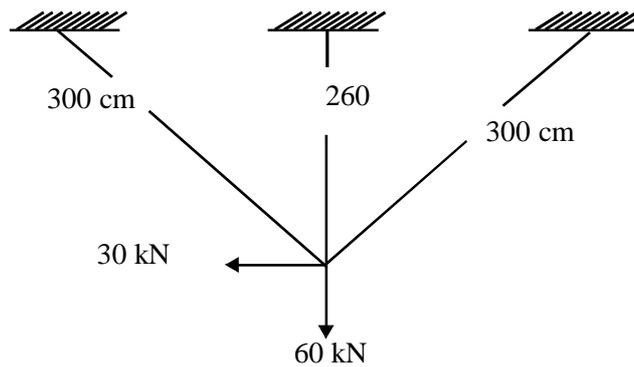

Figure. 4
12. Find the forces in members of the truss shown in Figure.4 by direct stiffness method